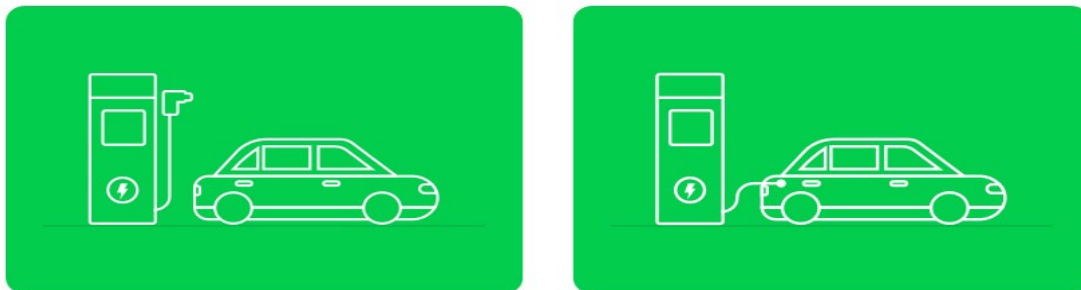

Figure 39. The state of not inserting the gun Figure 40. The state of not inserting the gun
6.3.1 Take out the plug gun, insert the charging gun into the charging port of the vehicle, and the screen icon changes at this time (as shown in Figure 39 and Figure 40)